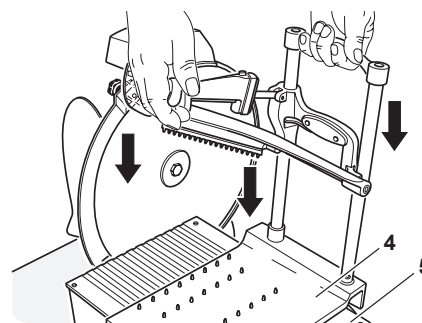

Figure 15-3
- Reposition the product holder (4).
- Place the product holder (4) complete with pusher (3) on the carriage (5) (Figure 15-3).